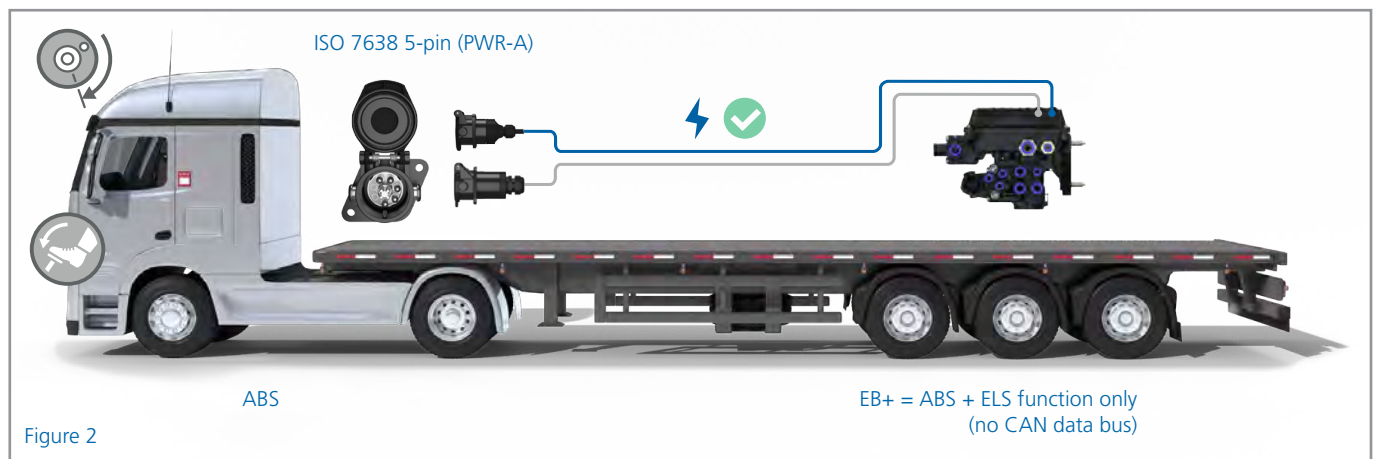

Figure 2
- › ISO 7638 5-pin (PWR-A, no CAN data bus) - ABS + ELS function only fig 2.